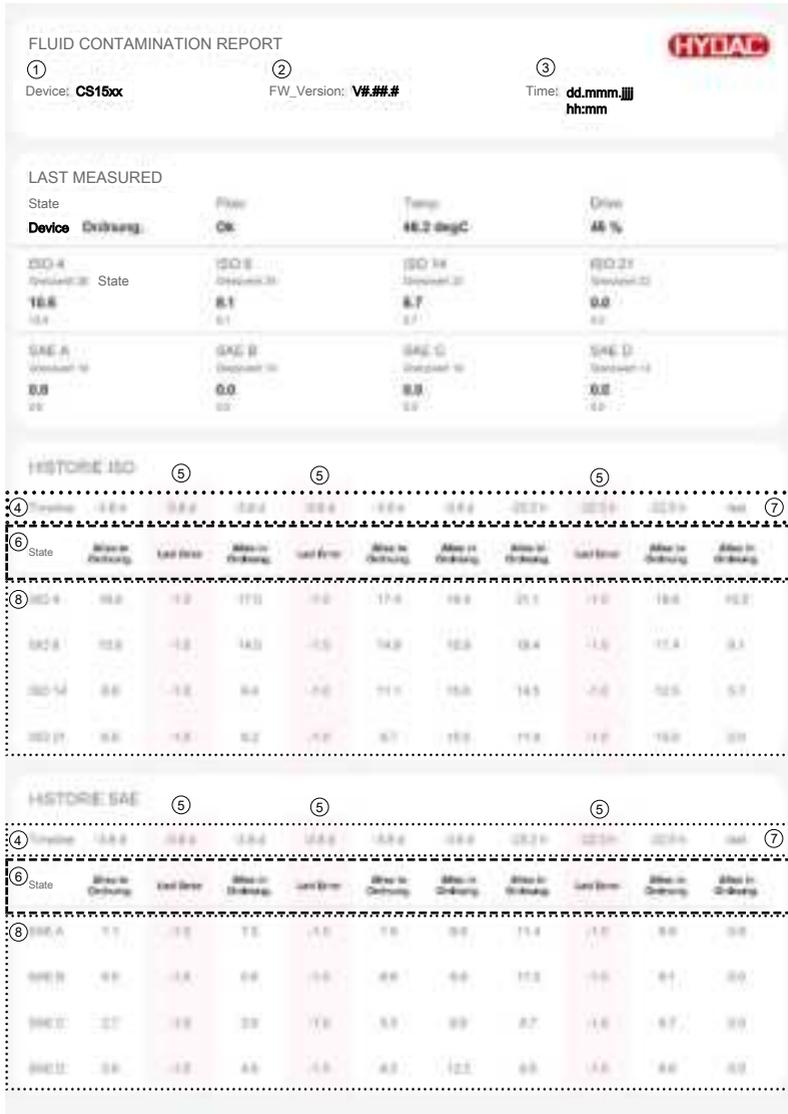

Fig. 17: View report
- Creates a measured value report as a PDF to be downloaded/saved, for details, see ►Fig. 17, p. 44.